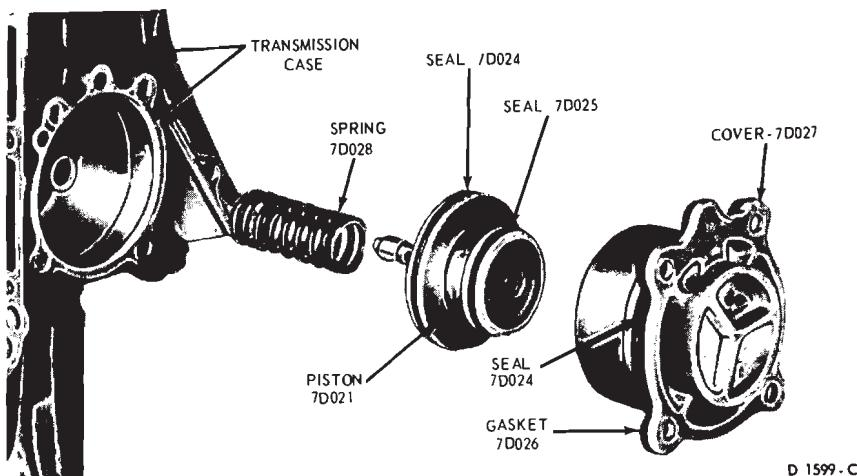

FIG. 17—Servo Disassembled—Typical
2. Remove the seals from the piston (Fig. 17).
2. Remove the seal from the cover (Fig. 17).